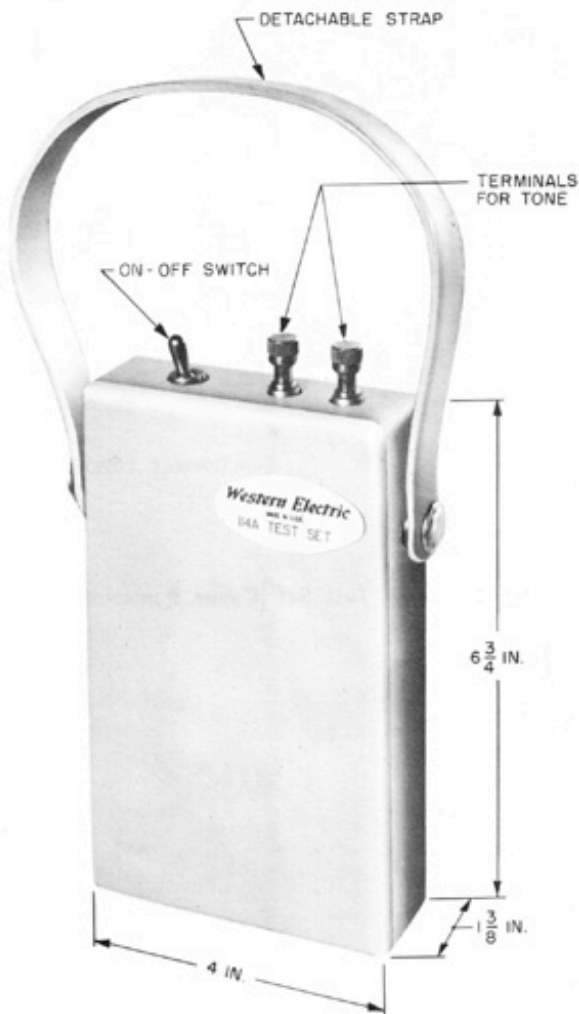
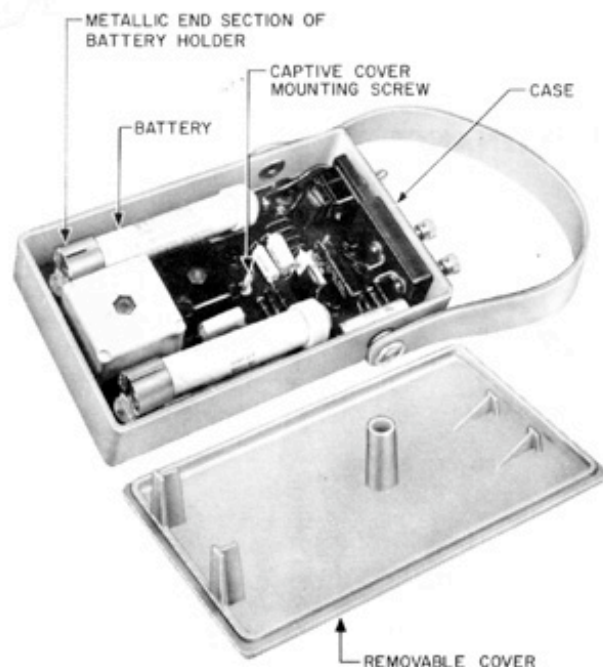

Fig. 1 — 114A Test Set (Front View)
Fig. 2 — 114A Test Set (Cover Removed)
2.01 The transistorized 114A Test Set shown in Fig. 1 is powered by two 6.5 volt mercury batteries. With batteries, it weighs about 1-1/4 pounds. A battery life of approximately 200 hours can be expected under normal conditions.
2.02 The test set has a plastic case with a removable cover and detachable strap as shown in Fig. 1 and Fig. 2. The cover is secured to the case by a captive screw. The two output terminals and ON-OFF switch are connected inside the case to a printed network which mounts the two mercury batteries and other circuit components.
3.03 To replace the batteries, loosen the captive cover mounting screw in the center of the case (see Fig. 2) and remove the cover. Then push the metallic end section of the battery holder in toward the battery and remove the battery and holder. Place the new battery in the holder, then remount the holder. Replace the cover and securely tighten the captive cover mounting screw.